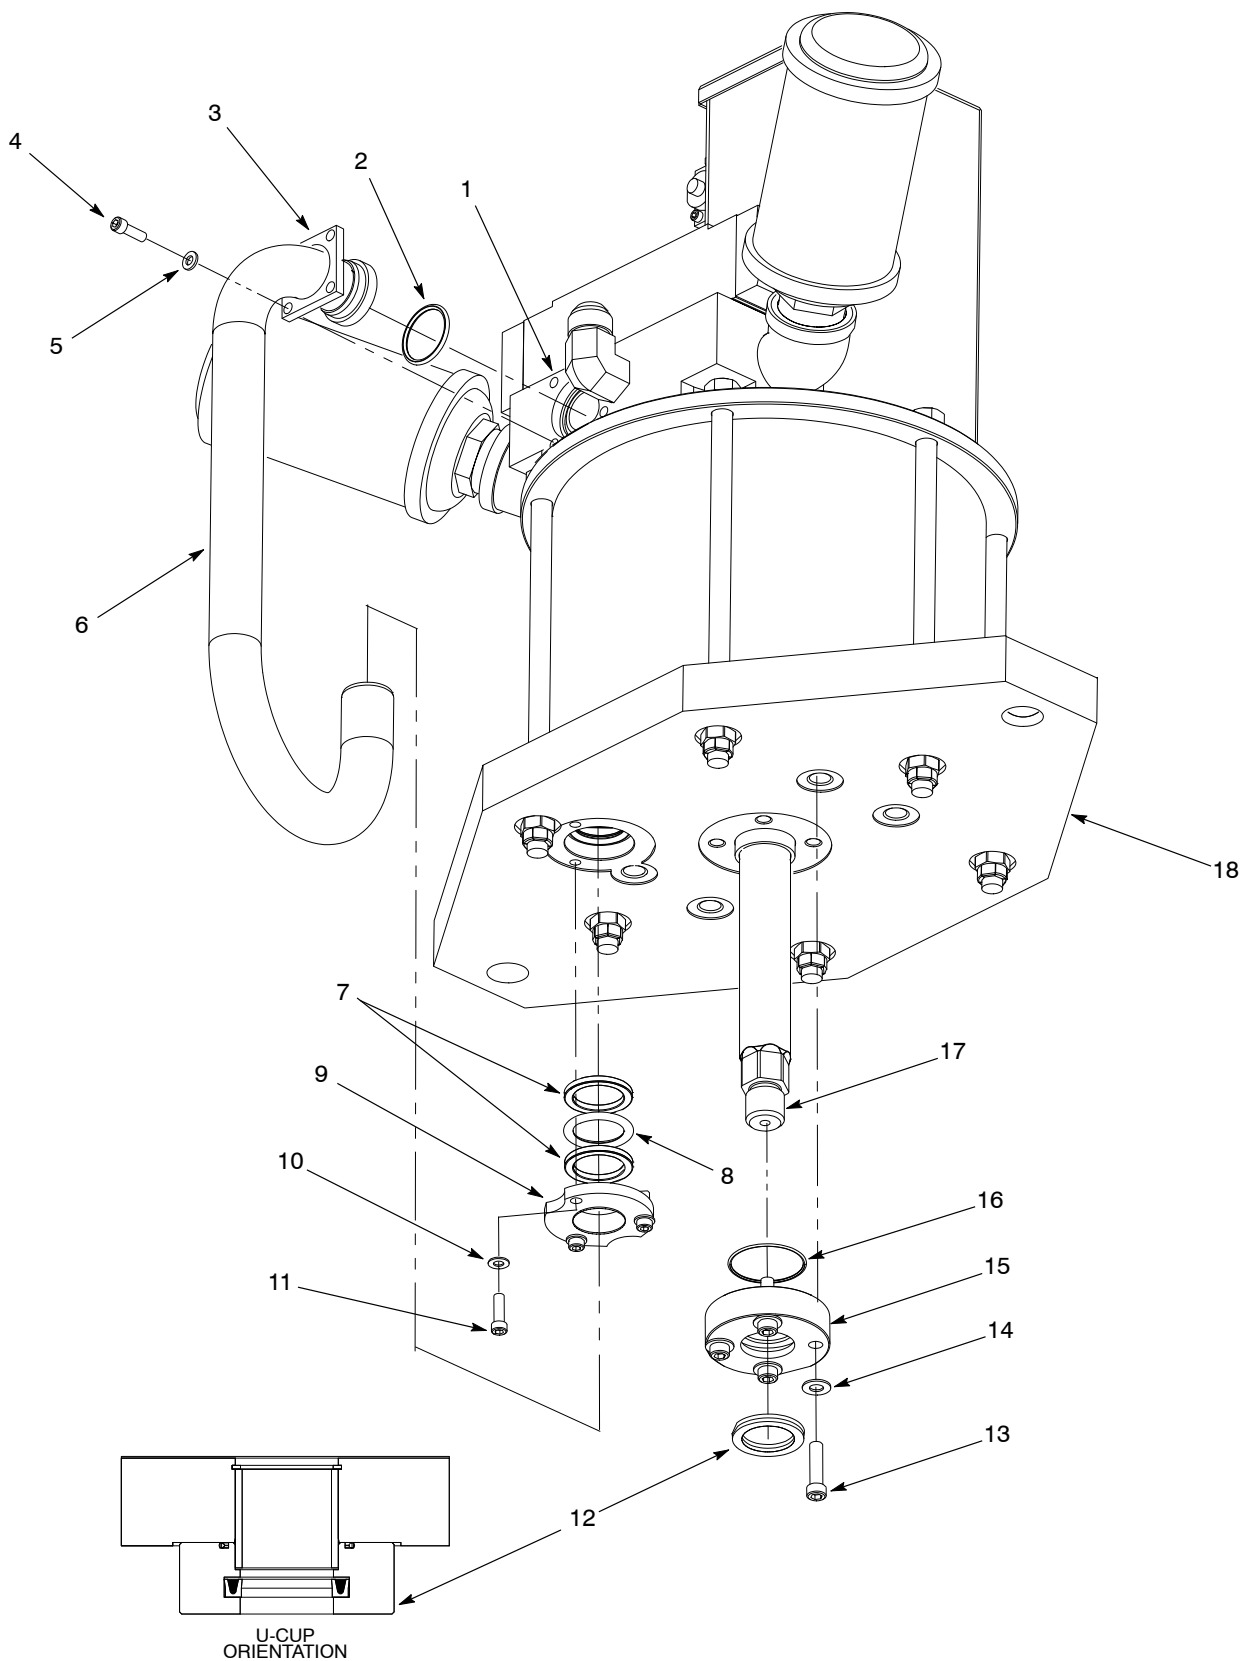

Figure 11 Replacing the Base Plate Seals and Rings
1. See Figure 11. Remove the screws (4) and washers (5) securing the upper supply tube retainer (3) to the air manifold (1).
2. Remove the screws (11) and washers (10) securing the lower supply tube retainer (9) to the base plate (18).
3. Remove the supply tube (6) from the air manifold (1) and base plate (18).
5. Remove the O-ring (2) from the air manifold (1). Remove the Quad-rings (7) and O-ring (8) from the base plate (18). Discard the Quad- and O-rings.
1. See Figure 11. Lubricate the Quad-rings (7) and O-rings (8) with TFE grease. Install the Quad-rings and O-ring into the base plate (18) as shown.
2. Install the lower retainer to the base plate (18) using the washers (10) and screws (11). Only finger tighten the screws at this time.
3. Lubricate the air manifold O-ring (2) with TFE grease and install it into the air manifold (1).
4. Install the upper retainer (3) onto the air supply tube (6).
5. Carefully insert the bottom portion of the air supply tube (6) through the lower retainer (9) and into the base plate (18).
6. Carefully insert the upper portion of the air supply tube (6) into the air manifold (1).
7. Secure the upper retainer (3) to the air manifold (1) using the screws (4) and washers (5). Tighten the screws to 10–12 ft-lb (13–16 N•m).
8. Tighten the lower retainer screws (11) to 10–12 ft-lb (13–16 N•m).
1. See Figure 11. Remove the screws (13) and washers (14) securing the piston rod retainer (15) to the base plate (17).
2. Remove the O-ring (16) and U-cup (12) from the piston rod retainer (15). Discard the O-ring and U-cup.
3. Lubricate the new O-ring (16) and U-cup (12) with TFE grease. Insert the O-ring and U-cup into the piston rod retainer (15) as shown.
4. Install the piston rod retainer (15) onto the base plate (17) using the screws (13) and washers (14). Tighten the screws to 22–25 ft-lb (30–33 N•m).